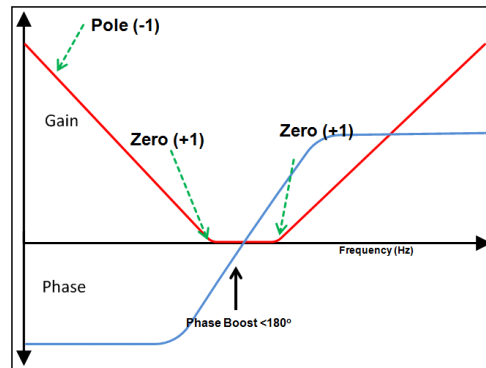

Figure 21 - PID Compensator Phase and Gain Characteristics
The Proportional Integral Derivative (PID) compensator enables the user to optimize the frequency response of the filter by using three (3) gain coefficients, these are the Proportional Gain (K_p), Integral Gain (K_i) and Differential Gain (K_d). The user might also choose to tune this controller by selecting the placement frequency for the single pole and two zeros, see Figure 21 - PID Compensator Phase and Gain Characteristics shown below. In this figure the (-1) slope is the equivalent to -20dB/decade and the (+1) slope to +20dB/decade.